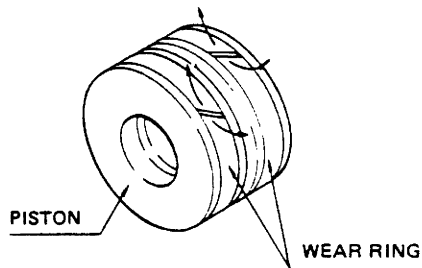

Fig. 5-24
Remove wear ring (A) from the slit by expanding it in the direction of the arrows (Fig. 5-24).